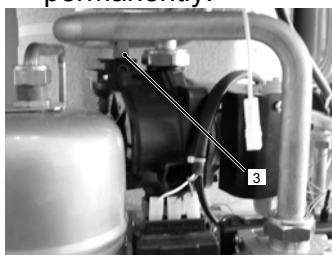

Figure 15.1
- Unscrew the cap on the automatic air purger valve 3 (Fig 15.1) one full turn and leave open permanently.